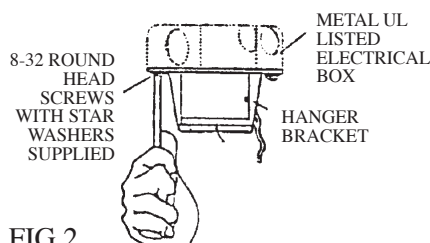

FIG.2
1. Securely attach the hanger bracket to the outlet box by washers and screws supplied (see FIG 2).